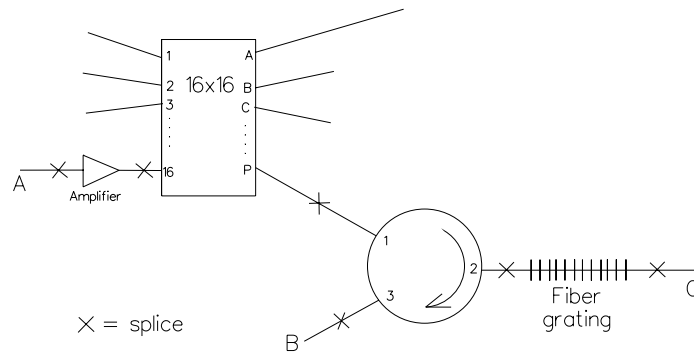

Figure 2: Component connection for Problem 3.
3. Consider the fiber link shown in Fig. 2 operating at 1300 nm. The input power in the fiber at point “A” is +3.7 dBm. The splice losses are each 0.7 dB. The gain of the amplifier vs. the normalized input power is shown in Fig. 3a. The saturation power of the amplifier is -10 dBm.